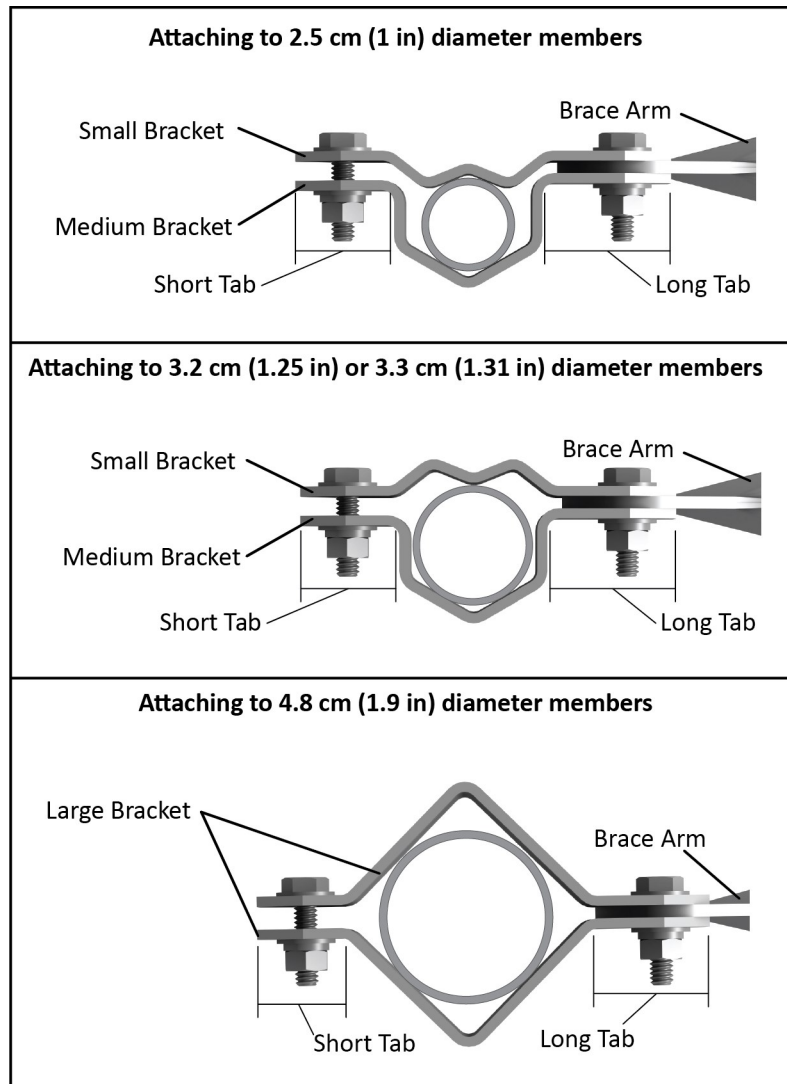

FIGURE 7-15. Bracket selection
1. Consult FIGURE 7-15 (p. 24) and Table 7-2 (p. 25) to determine which brackets are needed at either end of the brace to attach it to the crossarm and tower. The figure also indicates what orientation is needed when the small bracket is used.